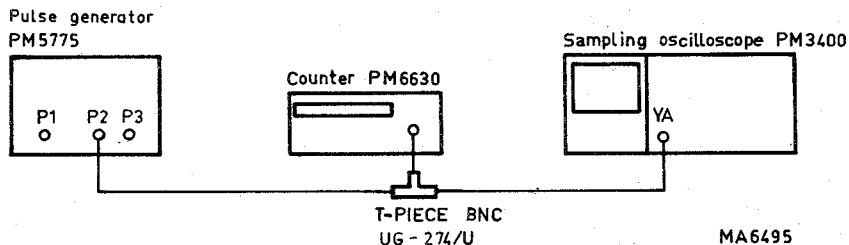

Fig. X-2. Set-up for checking the astable multivibrator.
- Connect the pulse generator PM 5775 (PM 5776) to a counter and an oscilloscope as shown in Fig. X-2.
- Connect the instruments as shown in Fig. X-2.